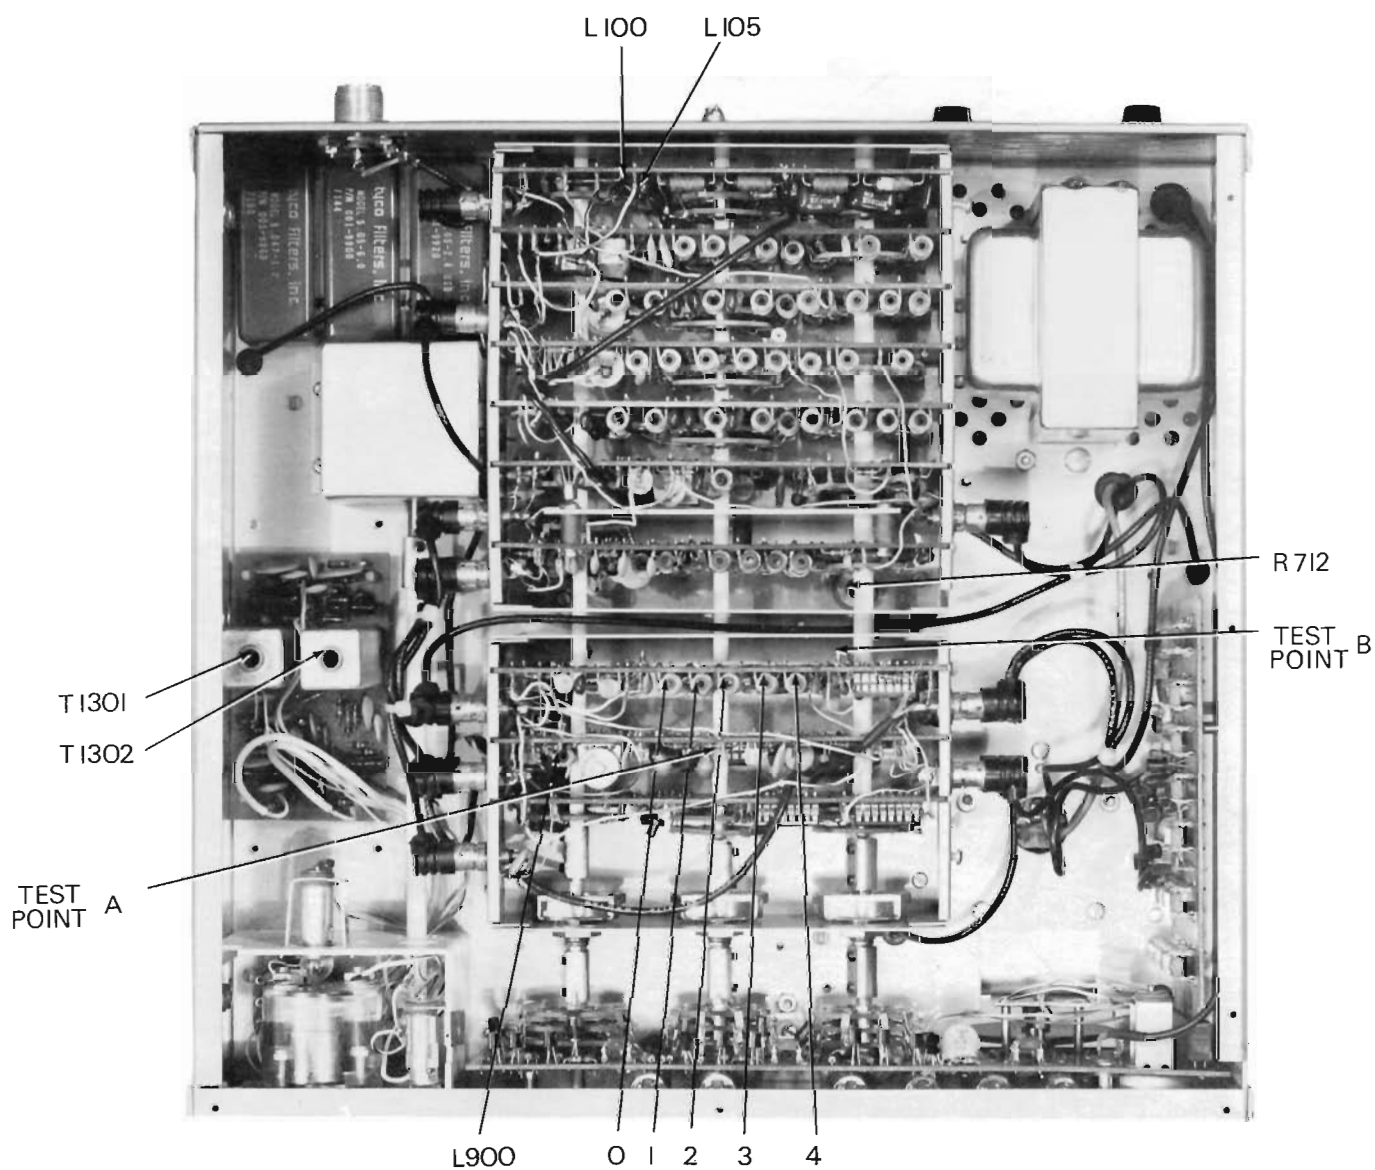

Figure 5-5. Top View with Covers Removed
- b. Refer to figure 5-5. Adjust the BFO transformer T1301 on the outside of the board for maximum DC voltage. This tunes the detector for the normal SSB channel.
- a. Refer to figure 5-5. Set the 0.1 MHz frequency switch to display 0.9 and adjust the variable resistor R712 on the VCO board for 9.5 volts as measured at the ring of the variable resistor.
- h. Place a scope probe on test point A shown in figure 5-5 on the Standard board and refer to the sawtooth waveform shown in the lower right hand corner of the Synthesizer schematic figure 5-33. A small horizontal step should appear approximately 1/3 of the way up on the leading edge of every other cycle.
- Refer to figure 5-5. Attach an RF probe to test point B on the Balanced Mixer card.